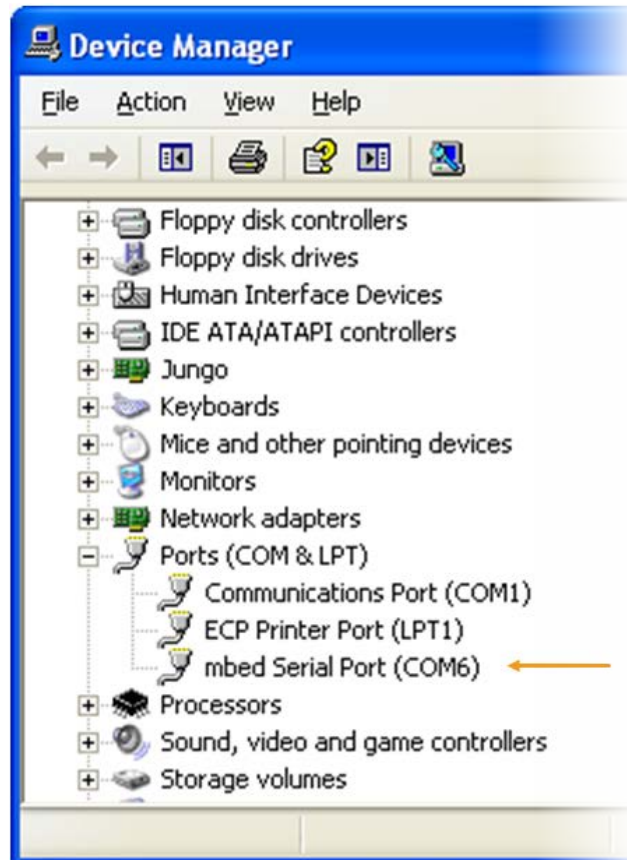

Figure 3. COM port associated with the MT7682 HDK
- 3) In **Device Manager**, navigate to **Ports (COM & LPT)** (see Figure 3).
- 4) A new **COM** device should appear under **Ports (COM & LPT)** in **Device Manager**, as shown in Figure 3. Note the **COMx** port number of the serial communication port, this information is needed to send command and receive logs from the COM port. Virtual COM port is connected to the board through the **UART1** of the chipset, see section 4.5, “Extension connectors”. The **mbed Serial Port (UART1)** is applied to flash the board and log the outputs.